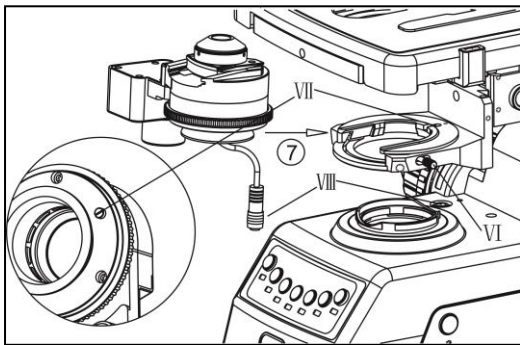

Fig 9
### 4-2-7 Install the Electric Condenser (fig 9)
Drop the small stent to the lowest location, and Inset condenser into the small stent according to the path ⑦ shown in the figure 9, until the VIII bolt piles into the VII slot completely. Then screwing in the VI slot to fasten the condenser according to the shown direction and stick electric condenser tightly.